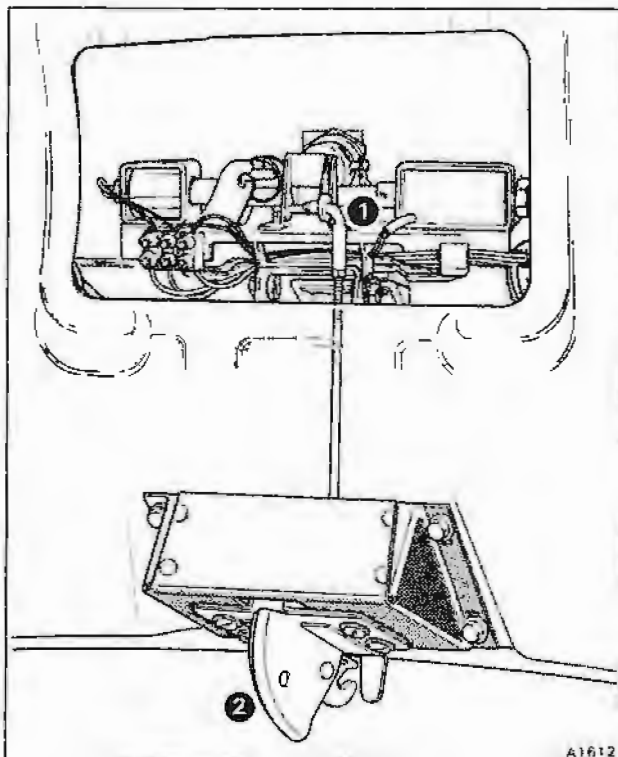

Fig. S7-3 Latch mechanism
Latch mechanism – To remove (see fig. S7-3)
3. Disconnect the latch mechanism control rod from the release lever (see fig. S7-3, item 1).
4. To facilitate assembly, mark the position of the latch mechanism (item 2) in relation to its mounting bracket.